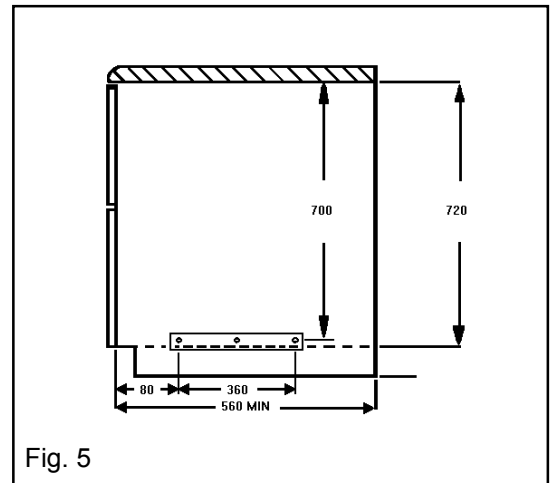
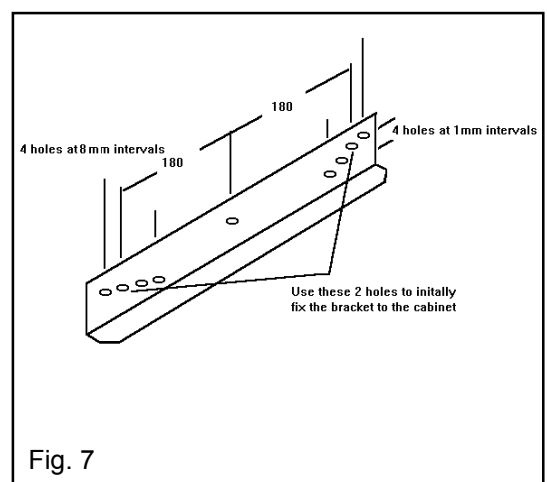

Fig. 5
Fig. 7
- Make sure the space between the cabinets is the correct size for the appliance to be fitted (Ref. Fig. 5 & 6).
- Drill two pilot screw holes into the sides of the adjacent cabinets, in the positions indicated by Fig. 5 .
- Fit the appliance mounting brackets using the two holes indicated in Fig. 7 to the adjacent cabinets ( Ref. Fig. 5 & 6).